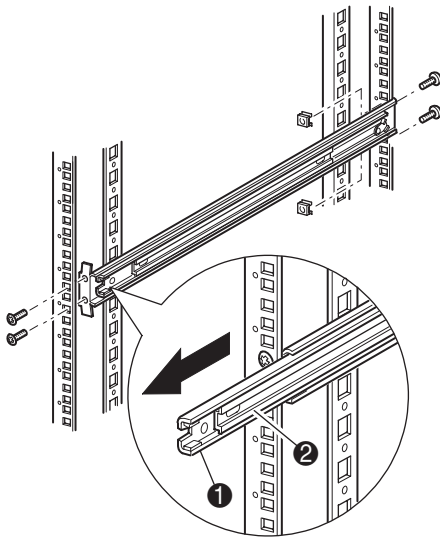

Figure 2-3. Installing the rails
2. Remove the template and then attach the rails using the supplied fasteners (see Figure 2-3). The front rail brackets are threaded to directly accept screws. The rear brackets are not threaded and require cage nuts in the storage cabinet's rear vertical rails.